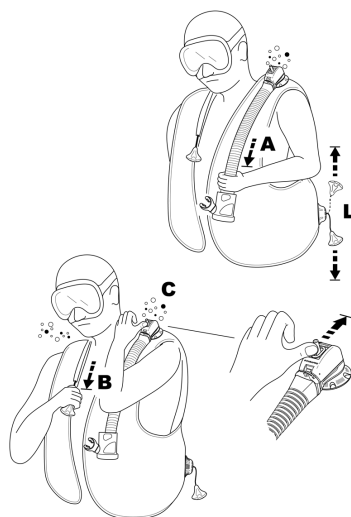

fig. 7
Stop and assume an upright position in the water. When in position, open the Manual Dump Valve by gently pulling downward on the Oral Valve/Power Inflation Valve Assembly (fig. 7 - A). It is not necessary to use excessive pressure to pull on the hose assembly. Valve travel is limited and pulling harder will not increase the air flow. To close the Manual Dump Valve, stop pulling downward, and release.
- The SCUBAPRO® Dual Manual Dump Valve (Patent) has a safety hand pin on the top (fig. 7 - C) that, by pushing it upward, releases air in case of failure of the Manual Dump System (broken cable, pin, etc.) or while breathing from an Air 2.
- a) pulling gently on the hose assembly (fig. 7 - A).
- b) pushing on the rod that protrudes out of the valve casing (fig. 7 - C) (Patented):
The valve on the right shoulder, if present, is activated by pulling gently on the knob which is connected via a lanyard to the valve itself (fig. 7 - B). To operate either style of dump valve, orient the valve to a position higher than the air bubble in the BC. Activate the dump valve until the desired amount of buoyancy is reached. Stop pulling/pushing to close the valve (fig. 7 - B).
### **Lower Dump Valve (fig. 7 - L)**